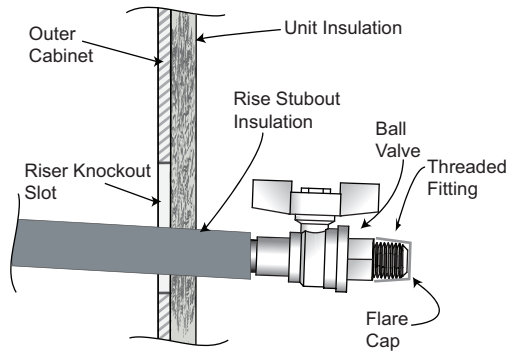

Fig. 30 — 42SMA Riser to Unit Installation
1. Carefully position the unit so that the riser ball valves penetrate into the unit through the riser slot making sure the insulation penetrates into the unit as shown in Fig. 30 and 31.